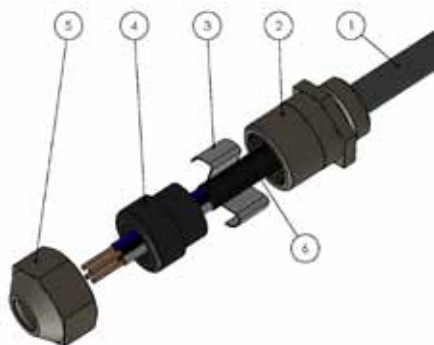

Fig. 58: Spring on naked screen
7. Make sure all cables (Fig. 58/1) are placed correctly and the spring (Fig. 58/3) is in contact with the naked screen (Fig. 58/6).